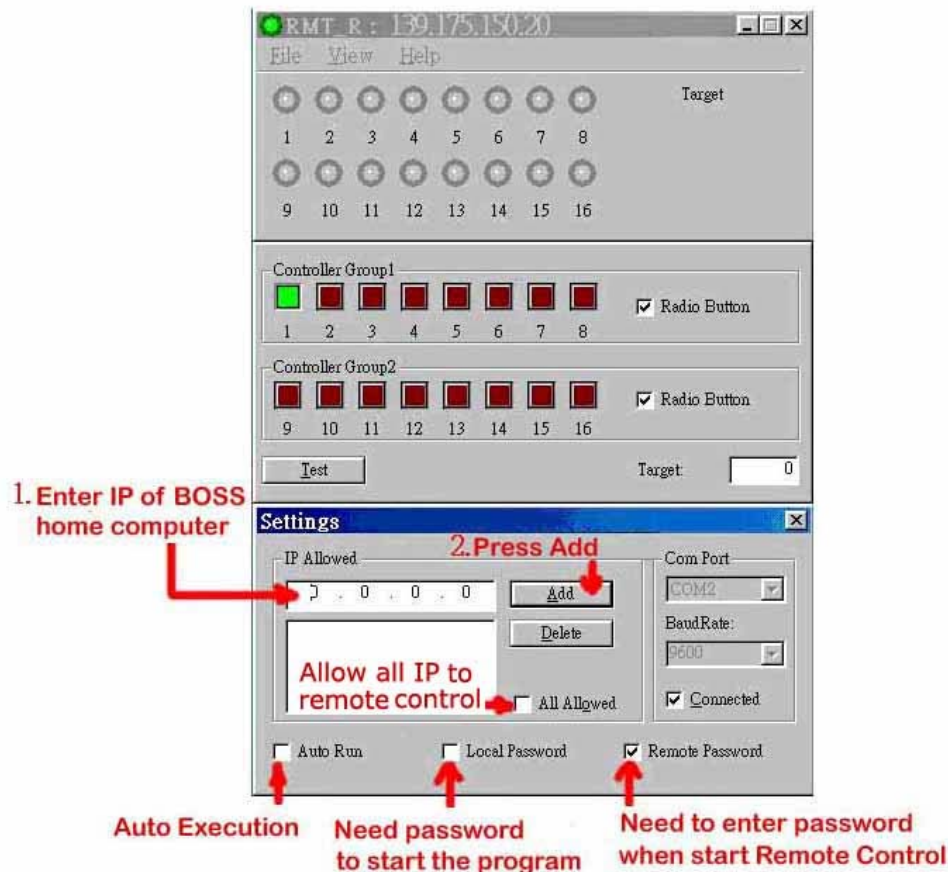

Fig. 6
- e) If the software was tested OK, you can set-up the control-end computer. First, you enter the IP of Boss computer in the column of “IP Allowed” then press “Add” as Fig 6 shows. It means this program can only controlled by the specific IP
Description of Fig. 6 is as follows: